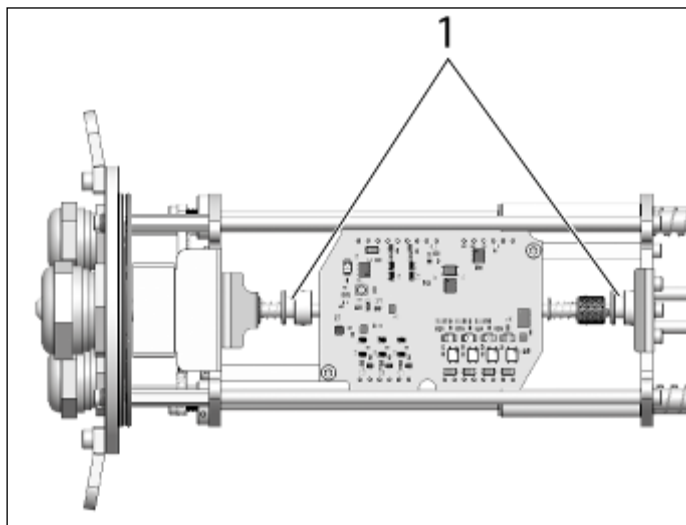
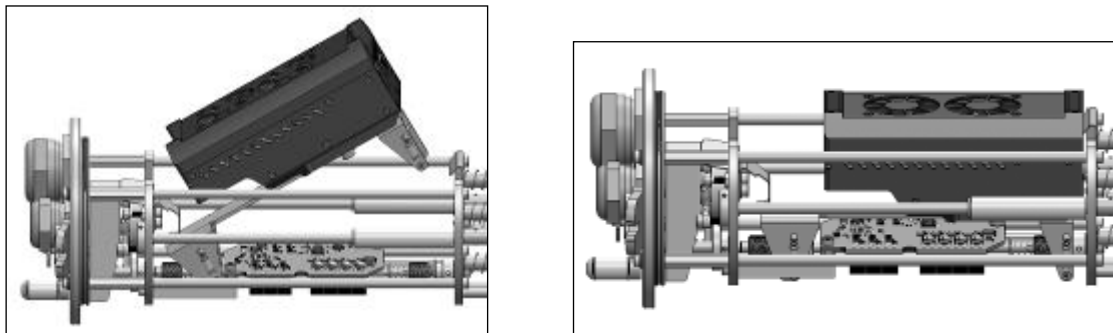

Figure 40: Notch to fix the PI NetBox (top view)
Figure 41: Fitting the PI NetBox into the chassis (right hand view)
At first push the fastening rail with the PI NetBox into the left notch (1) of the shaft. Afterwards into the right notch (1) (**Figure 40**) until it is engaged (**Figure 41**).